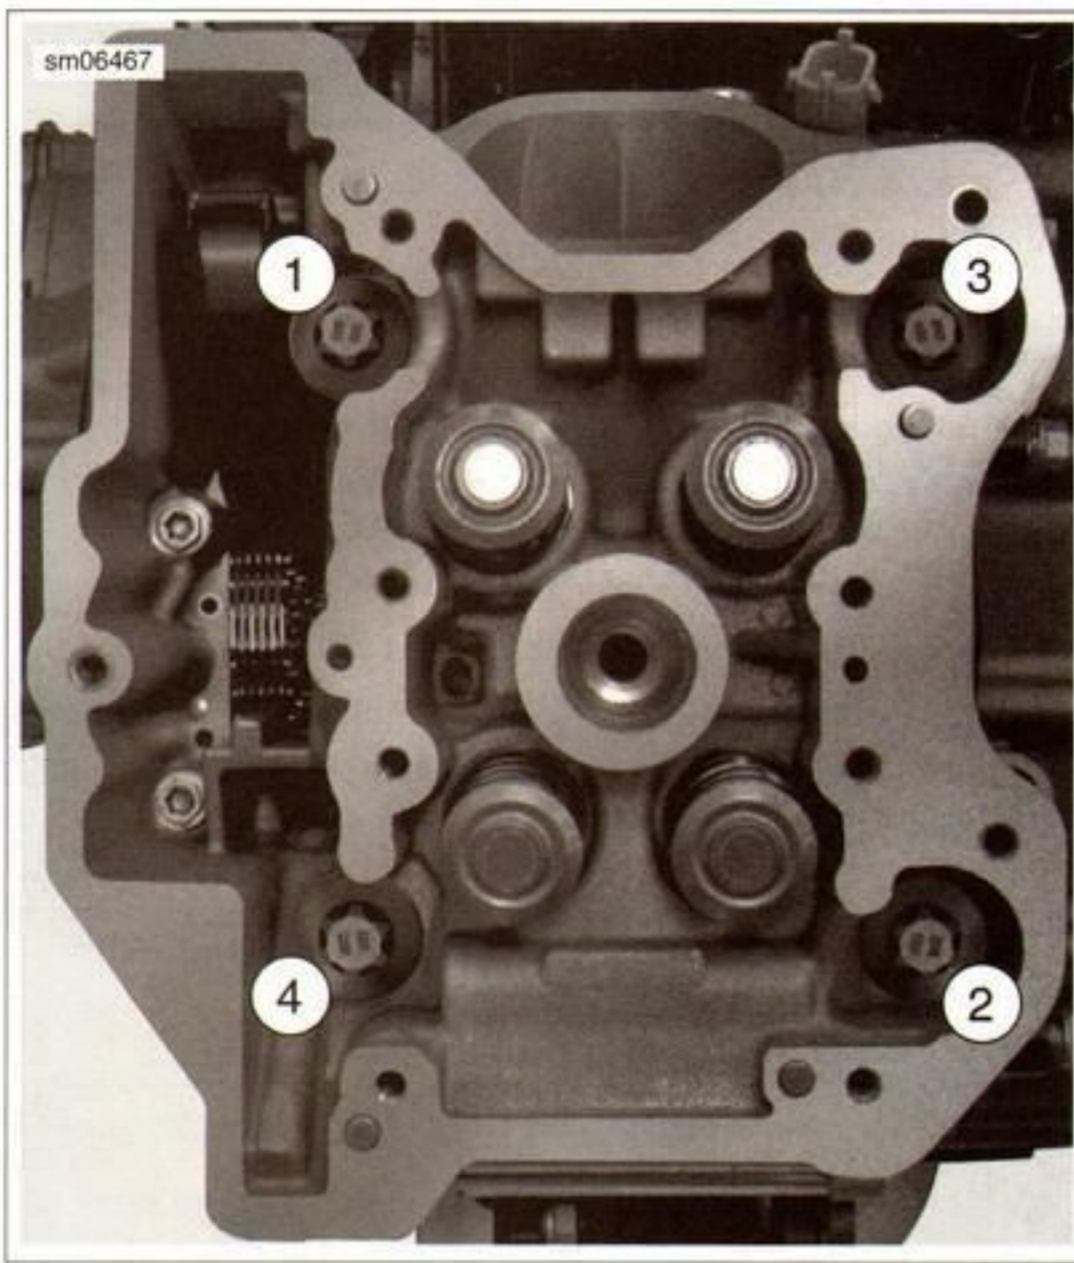

Figure 3-93. Large Fastener Torque Sequence
3. See Figure 3-93. Tighten large cylinder head fasteners.